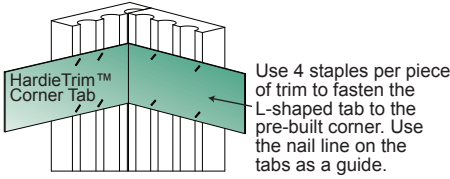

Figure 4
- Attach HardieTrim Corner Tabs to the back side of the trim using eight(8) - 18 ga. 1/2" x 1/4" narrow crown galvanized staples using a pneumatic stapler. Ensure the HardieTrim Corner Tabs are fastened tight and straight to the trim boards. (Figure 4)